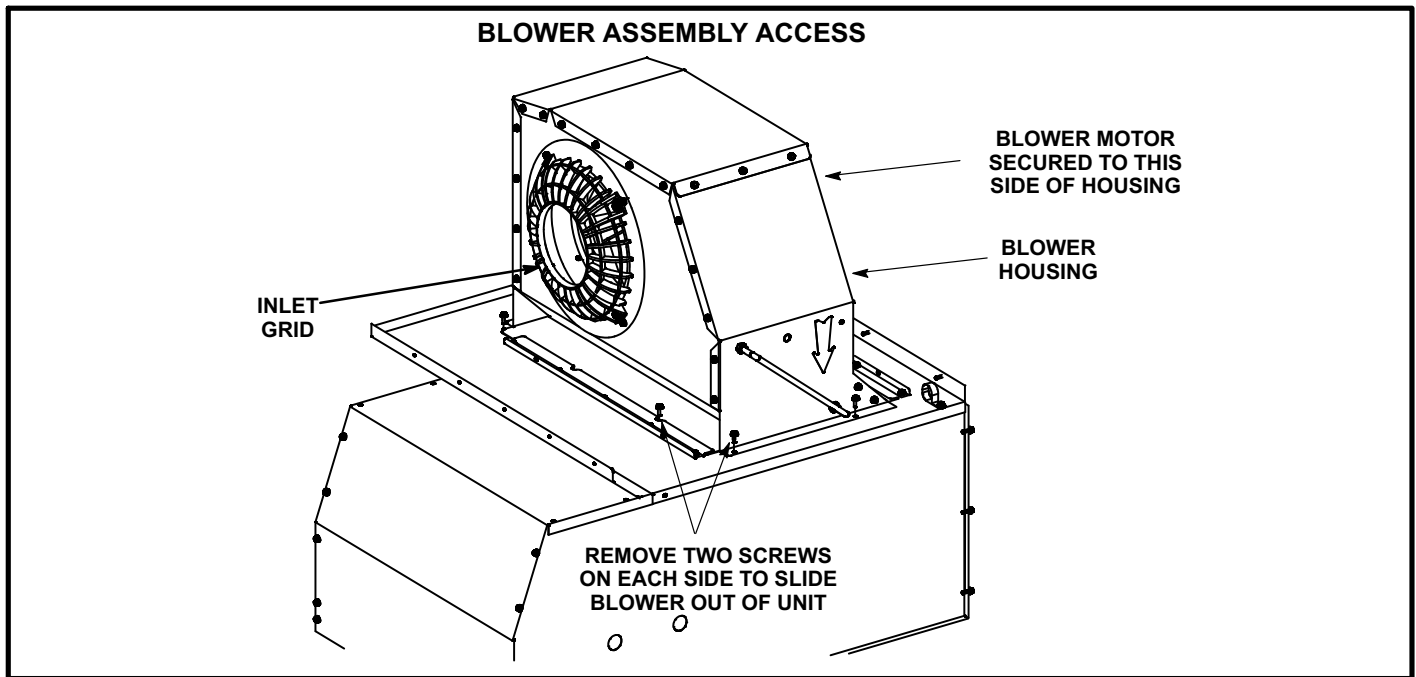

FIGURE 5
- 2- Remove and retain screws in front and on either side of blower housing. Pull frame toward outside of unit. See figure 5.